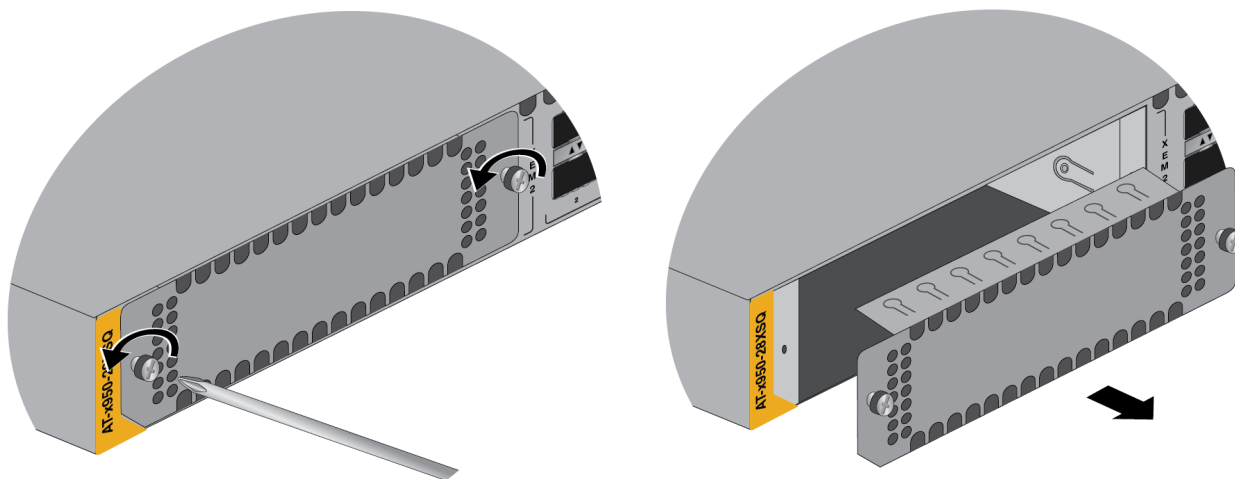

Figure 72. Removing the Blank Line Card Cover
9. Tighten the screw for the cover panel. Refer to Figure 72.
1. Using a #2 Phillips-head screwdriver, loosen the two captive screws on the blank expansion slot panel and remove it from the switch. Refer to Figure 72.